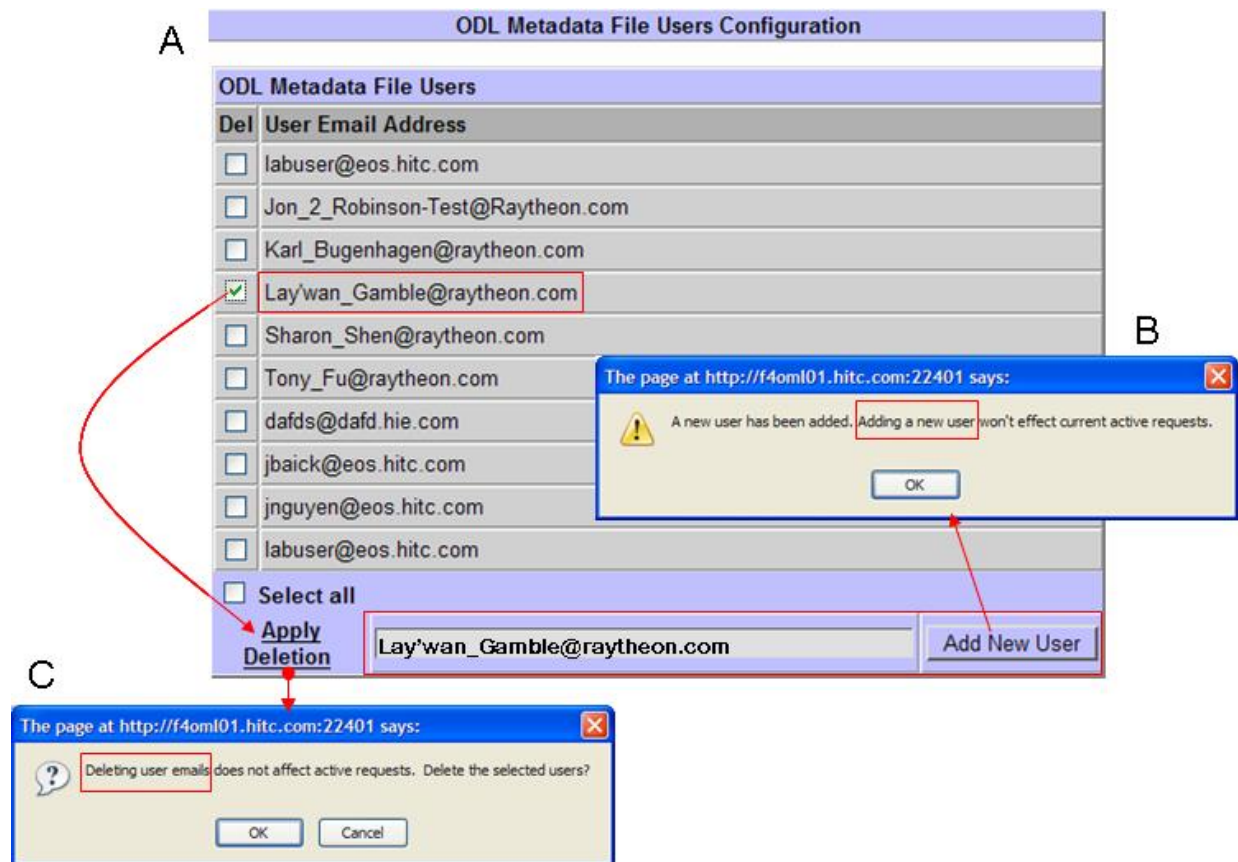

Figure 15.10-6. ODL Metadata File Users Configuration Page
The **ODL Metadata File Users Configuration** page (Figure 15.10-6) allows the full-capability Operator to configure a list of Email addresses that signifies users that need to receive metadata in ODL .met file format.
- 2 Click **ODL Metadata Users** submenu option to display the **ODL Metadata File Users Configuration** page (Figure 15.10-6, Frame A).
- The confirmation dialog box (Figure 15.10-6, Frame B) confirming the change displays.
- The confirmation dialog box (Figure 15.10-6, Frame C) confirming the change displays.